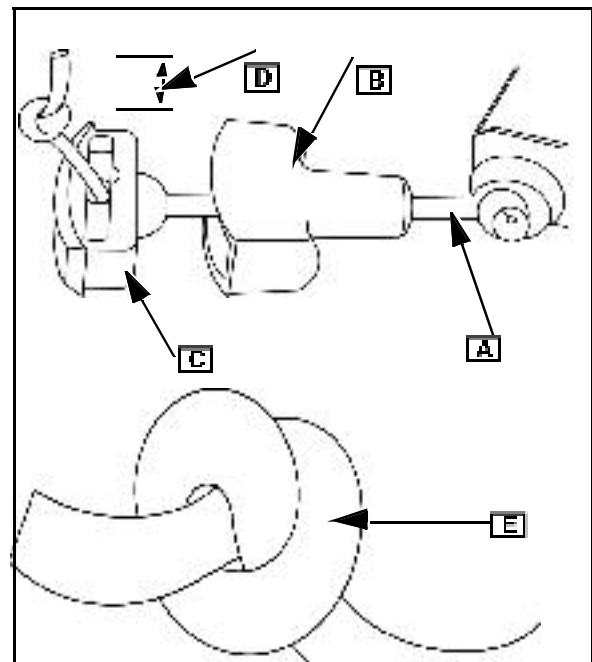

Fig. 3
2. Insert rope (A) through starter handle (B) and starter handle insert (C).
3. Tie knot on end of rope, leaving approximately 1/2 in. (13 mm) ([D] Fig. 3) of rope left. Pull knot into handle insert and pull insert into starter handle.
9. Insert rope and tie overhand knot. See SECTION 8- Fig. 3.